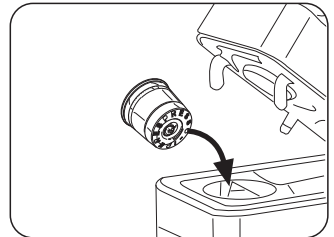

Fig. 8
- Slowly lift the control lever (1) backwards (until it stops) (**Fig. 7**) and introduce a capsule in the slot provided (**Fig. 8**)